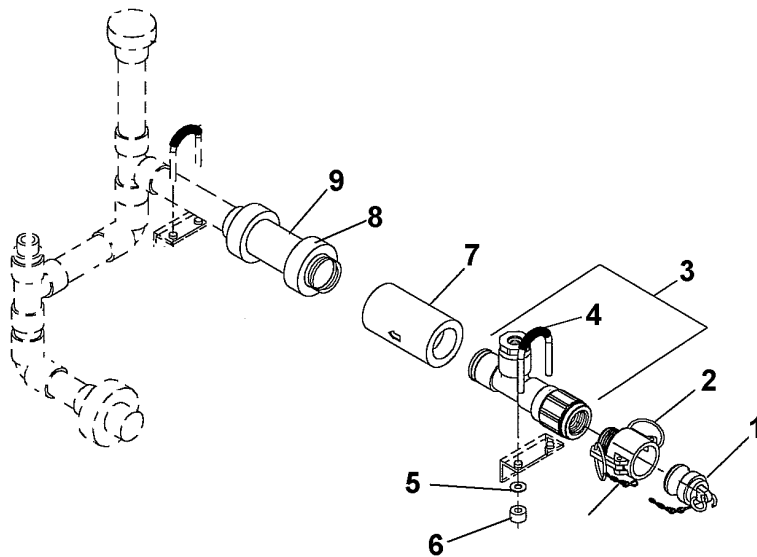

Figure 11. Flow Controller (8 GPM).
4. Install the flow controller (7) on to the check valve (9). Ensure that the arrow on the flow control valve is pointing in the direction of the flow. See Figure 11.